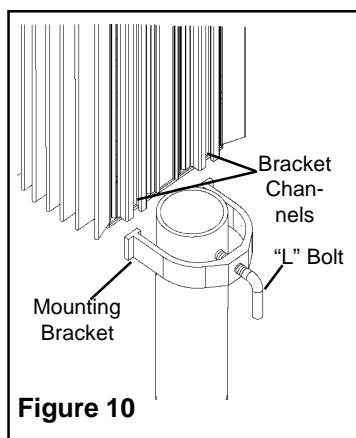

Figure 10
- (1) Stainless flat plate washer
10. Mount the Transverter on the mast by sliding the mounting brackets and "L" Bolts into the bracket channels on the backside of the Transverter. (See Figure 10.)